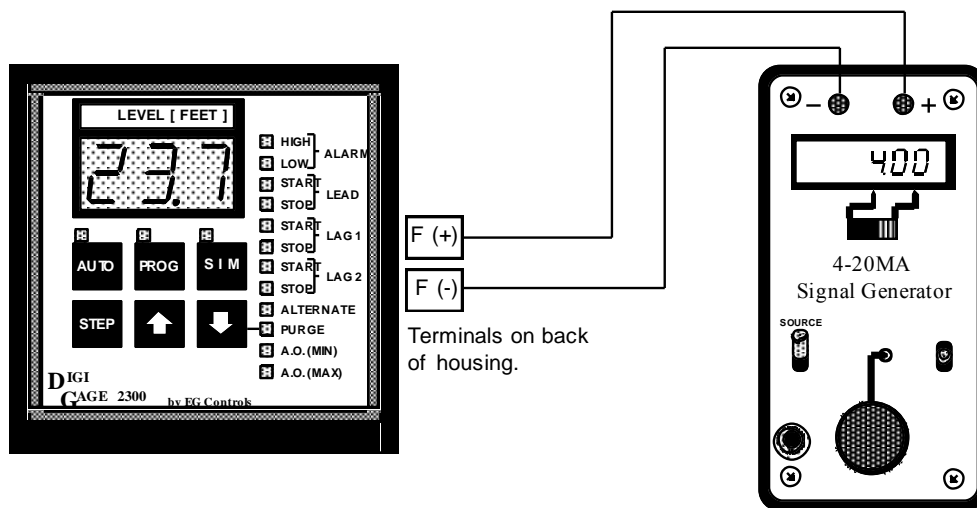

Figure 4-A Calibration Set-up for use with 4-20mA Signal Generator
- 4) Connect a 20mA DC Signal Generator or Loop Calibrator to input terminals F(+) and F(-) on the Digi-Gage as shown in figure 4-A on page 18.